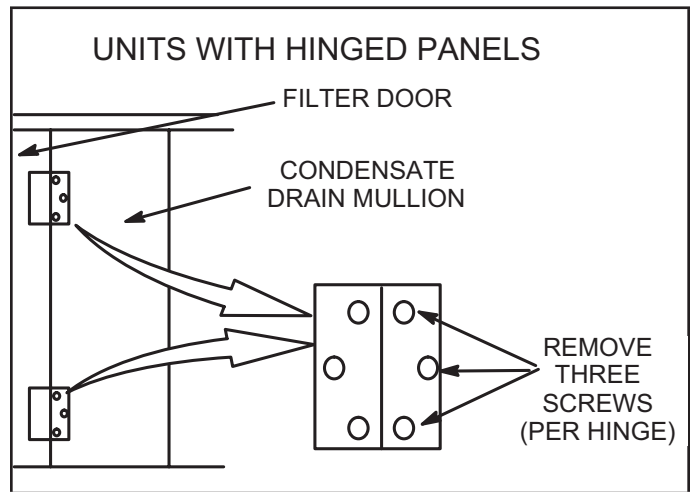

FIGURE 7
2 - Remove six screws from filter access door. Refer to FIGURE 7.
- 2 - Remove six screws from filter access door. Refer to FIGURE 7.